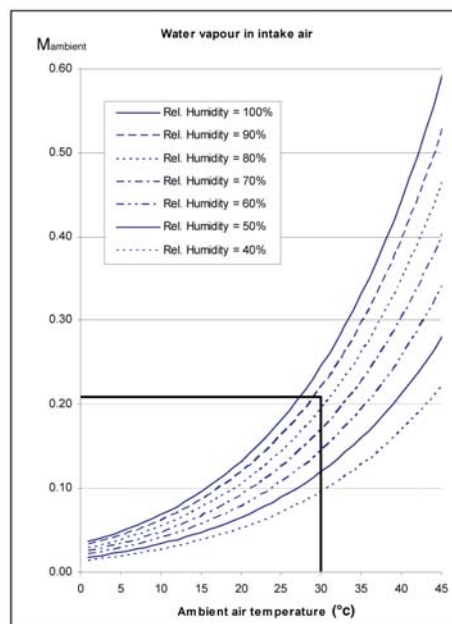

Figure 1
The amount of condensate from the water mist catcher(s) can be estimated based on the below listed measurements and figure 1 and 2.
1. The amount of water vapour in the intake air (M_{ambient}) is found in *figure 1* based on measurements of ambient air temperature and relative humidity.
The sea water temperature may alternatively be used in *figure 1* instead of the ambient air temperature and relative humidity. The 100% relative humidity curve applies, if the sea water temperature is used.
1) $M_{\text{ambient}} = 0.21 \text{ kg/kWh}$ found from *figure 1* (as outlined)